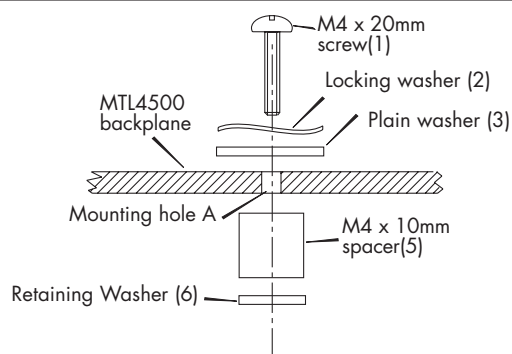

Figure 4.2: Surface mounting procedure
- c) Place a locking washer (2) and a plain washer (3) over each M4 x 20mm screw (1) (Figure 4.2).
- e) Fit M4 x 10mm spacers (5), retaining them with retaining washers (6) (Figure 4.2).